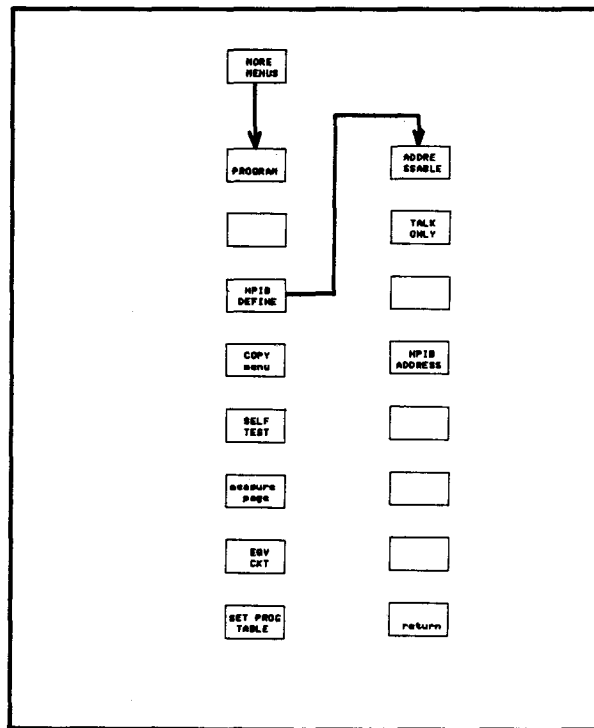

Figure 3-152. HP-IB DEFINE menu
1. Press the **MORE MENUS** key, then select the 'HPIB DEFINE' softkey, the HP-IB DEFINE menu will be displayed as shown in Figure 3-152.